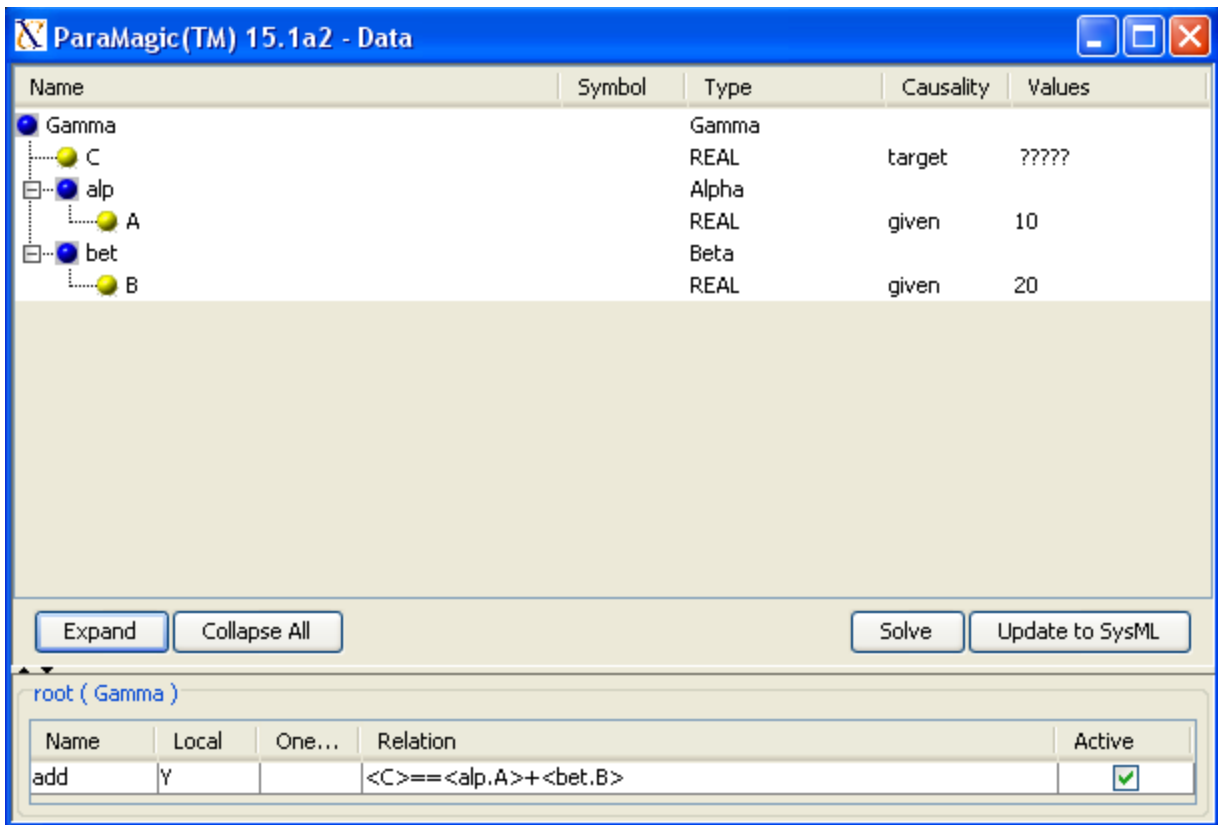

Figure 2.25 ParaMagic Browser window
- b. Select ParaMagic→Browse. Browser should show up like Figure 2.25.